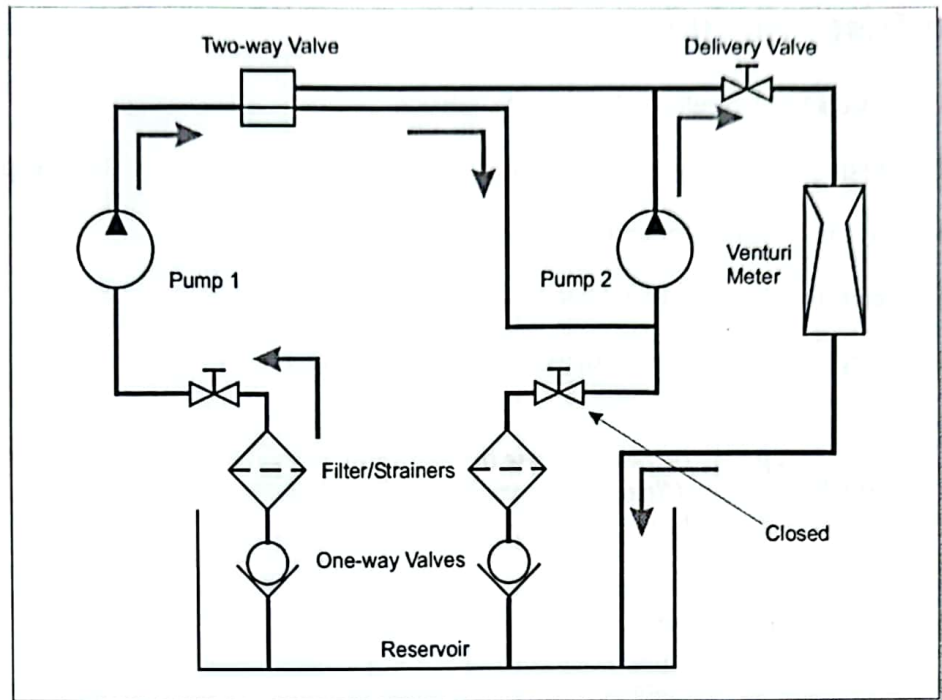

Figure 26 Flow Diagram for a Series Pump Test
3. Open Pump 1 inlet valve. Close Pump 2 inlet valve. Set the two-way valve to direct flow straight to the inlet of pump 2 (see Figure 26). Fully open the delivery valve.